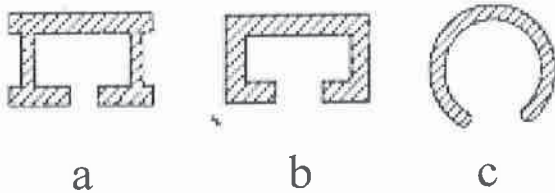

Figure ex1
- a) Assuming the cross sectional areas in figure ex1 are the same, which cross section requires more force to extrude? Why?